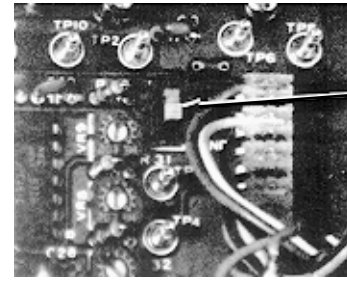

FIGURE 5
3. Make sure SW1 is set correctly for winding or unwinding operation (See Figure 5).